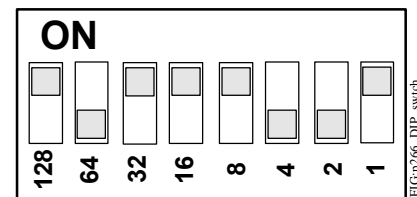

Figure 8: A DIP Switch Block with the Switches Positioned for a Setup Value of 185
2. Position the numbered switches to ON so that the total of the switch numbers (in the ON position) equals the desired setup value. Start with the highest number switch that is less than the setup value. (For example, if the desired setup value is 185, position switch 128 to ON first. Then position switch 32 ON, followed by switch 16, switch 8, and switch 1 [128+32+16+8+1=185] [Figure 8]).